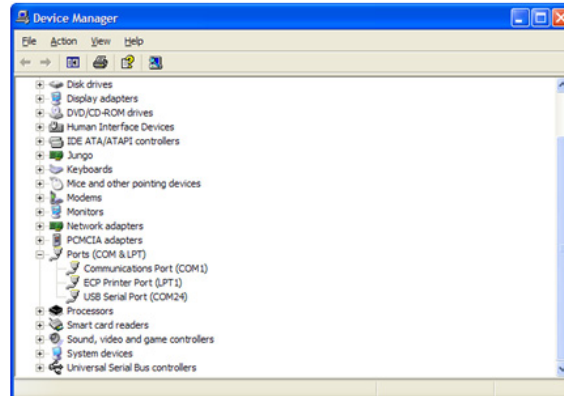

Figure 8-3. COM Port Determination in Device Manager
- b) Select the Hardware tab, and click the Device Manager button. The Device Manager window appears as shown in Figure 8-3.
- d) The COM Port selected by the system is titled `USB Serial Port (COM24)` as shown in Figure 8-3.